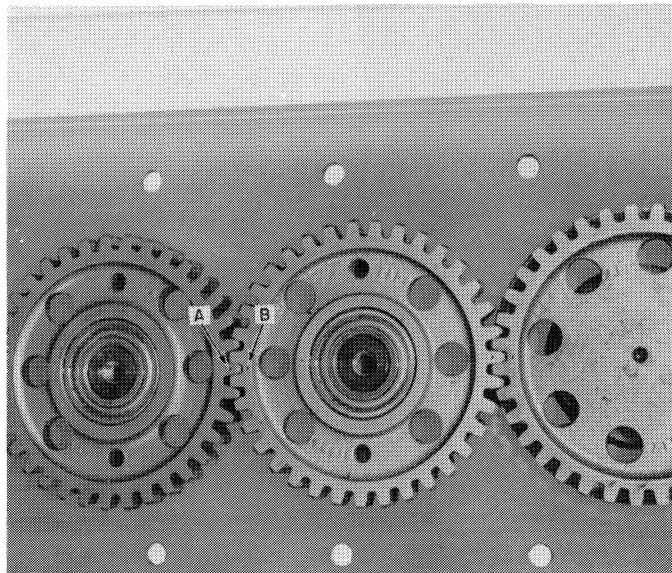

FIGURE 16
1. Place the upper trough in an upside-down position. Install the idler gears as shown in Figure 16. Make sure **all the gears are timed the full length** of the cutter bar as shown at A and B. All gears have timing marks.